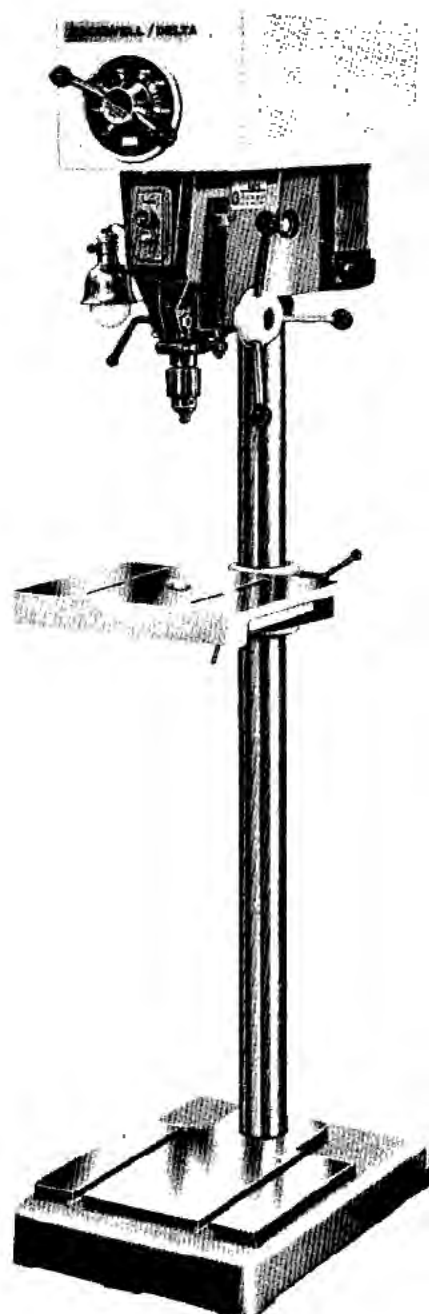
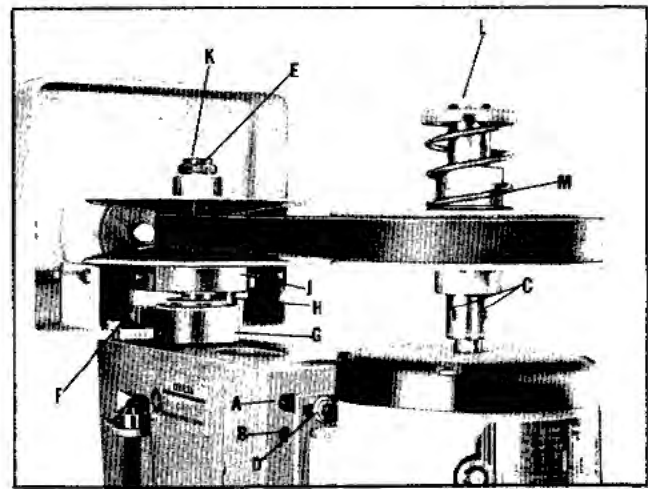

Fig. 2
Fig. 8
The pilot wheel (A) Fig. 2, for Variable Speed Drive, should not be turned except when the motor is running, to avoid putting unnecessary strain on the variable speed drive belt and variable speed drive pulley assembly. The pilot wheel is turned clockwise to make the drill press run faster, and counter-clockwise to slow it down.
While changing speeds the pointer (B) Fig. 2, will indicate the speed of the drill press.
Similar drag plugs or "dampeners" are provided in the spindle pulley and motor pulley assemblies, and are adjusted at the factory. After long service, it may be desirable to increase the pressure on the drag plugs by tightening set screws (A) Fig. 3A for the spindle pulley, and (M) Fig. 8 for the motor pulley. This adjustment does not have to be made, unless normal wear has resulted in noisy operation of the pulleys.
3. If you are installing a NEMA 56 Frame Motor, it is necessary to remove the two upper motor mounting studs (A) Fig. 8, and reposition them in the holes (B) directly below.
4. Make sure the key is in place and tighten the two set screws (C) against the motor shaft.
5. Place the motor on the four motor mounting studs (A) Fig. 8, and install belt.
6. Visually line up the motor shaft so that it is in parallel alignment with the spindle. If the motor must be tilted to the front or rear, it is necessary to loosen the four nuts (D) and move studs (A) in or out as desired until the motor shaft is parallel with the spindle. Then tighten the four nuts (D) Fig. 8.
8. If the motor must be moved further away from the spindle, back off each of the four nuts (D) and back off the four studs (A) an equal number of turns against the motor base plate.
9. If the motor must be moved forward turn in each of the four studs (A) an equal number of turns and tighten nuts (D) against the motor base plate.
10. The spindle nut (E) Fig. 8, should then be adjusted so that the distance from the top of the nut to the top of the spindle is $1/4$ to $5/16''$.
11. TO CALIBRATE THE SPINDLE SPEED turn the drill press on and turn pilot wheel clockwise. When the outside circumference of the belt extends $1/32''$ beyond the outside circumference of the motor pulley, turn off the power, loosen locknut (G) Fig. 8, and adjust the stop screw (H) until it is bearing against the bottom of the bearing retainer (J). With a 1725 rpm motor the speed of the drill press will be approximately 4700 rpm. With a 1140 rpm motor the speed of the drill press will be approximately 3100 rpm. Now set the pointer (B) Fig. 2,
to the corresponding speed on the spindle speed chart by unscrewing and removing the pilot wheel hand levers(A) Fig. 2, and loosening the set screws located directly under the hand levers. The hub of the pilot wheel assembly can then be rotated until the pointer points to the corresponding speed on the spindle speed chart (B) Fig. 2. Then tighten the set screws and replace the pilot wheel hand levers (A) Fig. 2.
12. Turn the drill press on and rotate the pilot wheel counterclockwise until the pointer is pointing to the lowest rpm mark on the speed dial and turn off the drill press. Adjust the stop screw (F) Fig. 8, against the roller cam follower on the pilot wheel cam assembly. To adjust stop screw (F) Fig. 8, first loosen locknut (C) Fig. 2.
The pulleys should be lubricated weekly in the oil holes located at (K and L) Fig. 8. Oil the holes when the drill press is turned off. Then turn on the drill press and run the machine from low speed to high speed a few times.